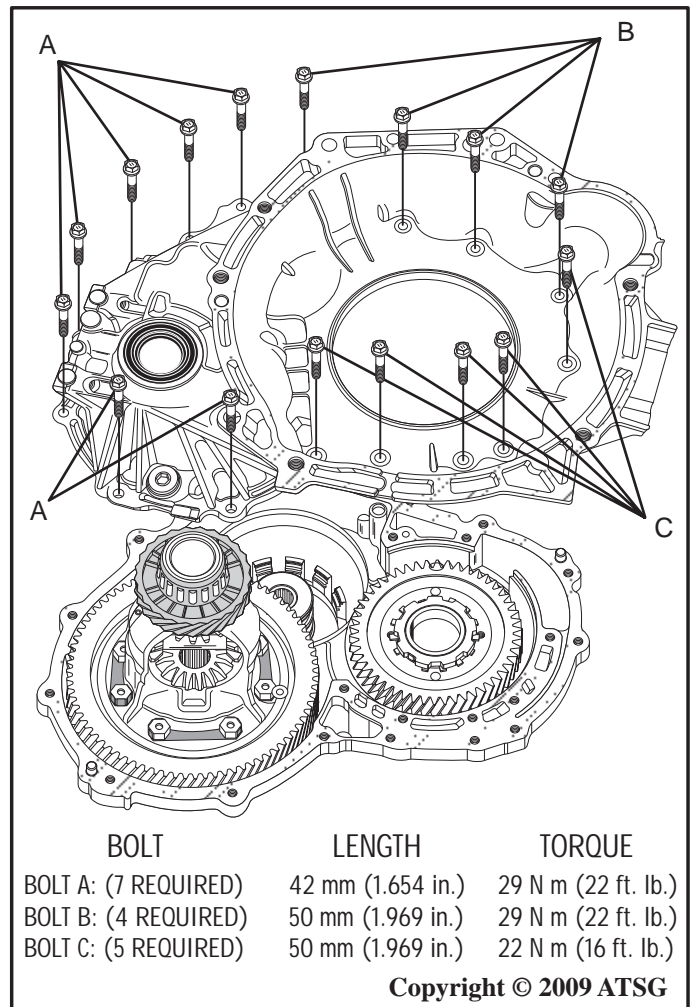

Figure 180
70. Install the sixteen differential housing to transaxle case attaching bolts and torque them as shown in Figure 180.